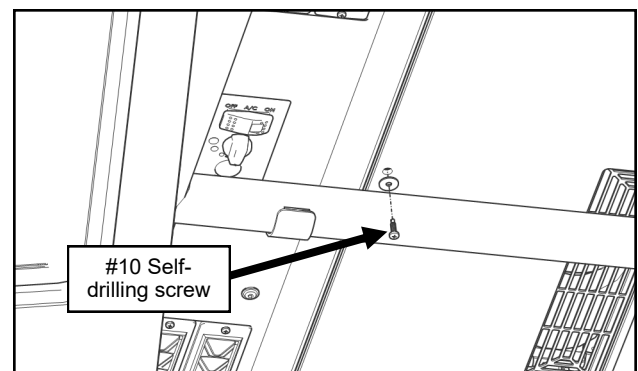

Fig. 5.5 (Self-Drilling Screw)
- 5.5** Locate the hole in the underside of the roof, just behind the center of the vents of the A/C Unit. Install a self-drilling screw with a 3/4" washer through this hole and into the A/C Unit. See Figure 5.5.